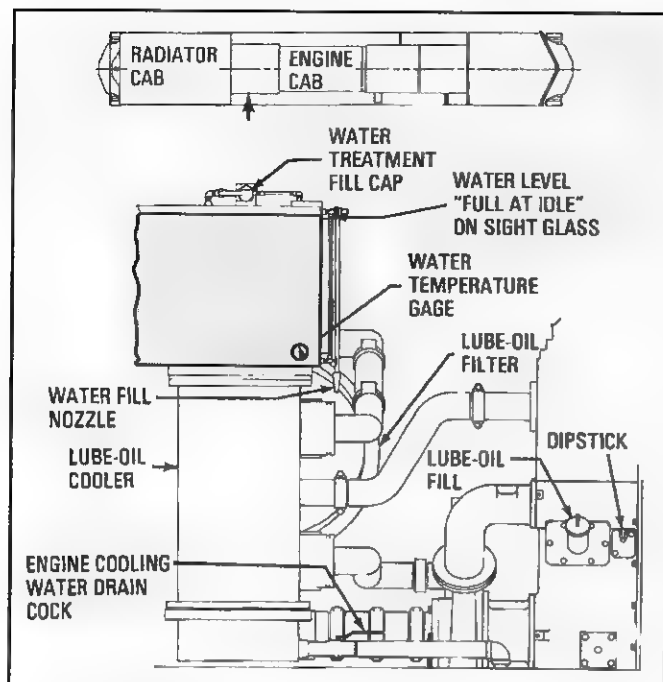

FIG. 29. ENGINE COOLING WATER SIGHT GLASS (TYPICAL). E-34100A.
2. Water Temperature Gage – Located on the right side of the water storage tank (Fig. 29). Normal operating temperature is 188–200 F (87–93 C).
1. Cooling Water – A water level sight glass mounted on the right side of the cooling water storage tank (Fig. 29) indicates the level of the cooling water. Markings near the sight glass indicate the proper level for various conditions of the system.